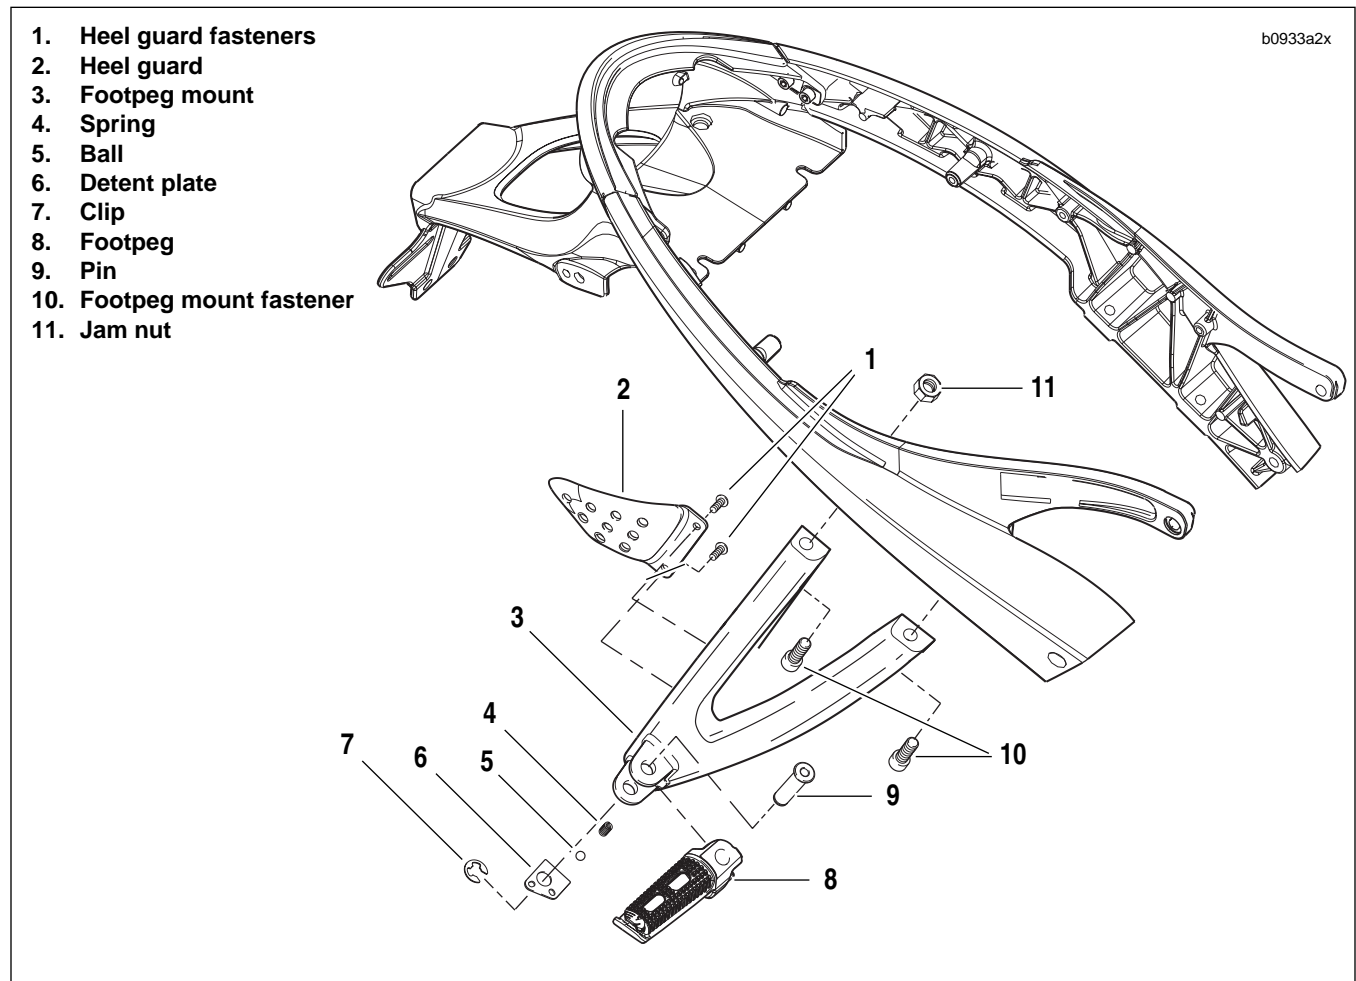

Figure 2-115. Passenger Footpeg, Mount and Heel Guard Assembly
1. See Figure 2-115. Remove clip (7).
2. Remove footpeg pin (9).
3. Remove footpeg (8), detent plate (6), ball (5) and spring (4).
1. See Figure 2-115. Remove heel guard fasteners (1).
2. Remove heel guard (2).
1. See Figure 2-115. Remove jam nuts (11).
2. Remove footpeg mount fasteners (10).
3. Remove footpeg mount (3).
1. See Figure 2-115. Position footpeg mount (3) onto tail section.
2. Apply LOCTITE 272 (Red) to footpeg mount fasteners (10), install and tighten to 25-28 ft-lbs (33.8-37.9 Nm).
3. Install jam nut (11) and tighten to 48-72 **in-lbs** (5.4-8.1 Nm).
1. See Figure 2-115. Position heel guard (2) onto footpeg mounts (3).
2. Install heel guard (2).
1. See Figure 2-115. Position footpeg (8), detent plate (6), ball (5), and spring (4) on to footpeg mount (3).
2. Install footpeg pin (9).
3. Install clip (7).